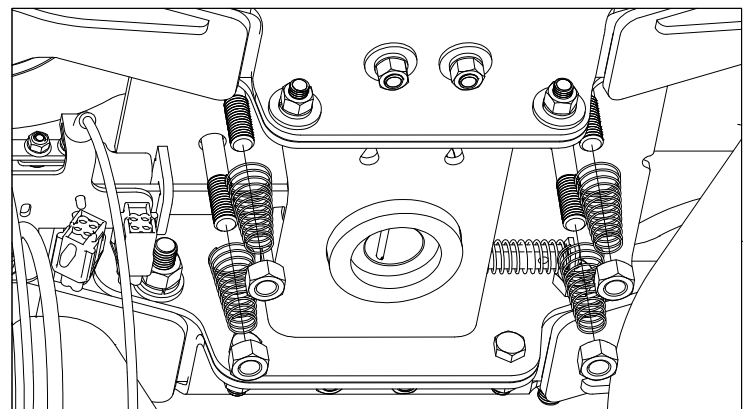

Figure G2: View looking up under the bed.
3. **Add springs.** Place a conical spring over each leg of the U-bolts and secure with a 5/8" lock nut, see Figure G2. Tighten the lock nut until the nut is flush with the end of the U-bolt.